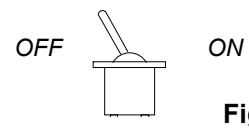

Fig. 1
1. Turn system power OFF (see Fig. 1).